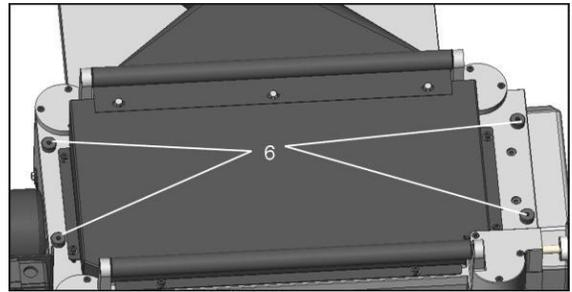

Fig. 33
- The machine comes equipped with four head screws, it is important to always keep them lubricated. (Fig. 33)